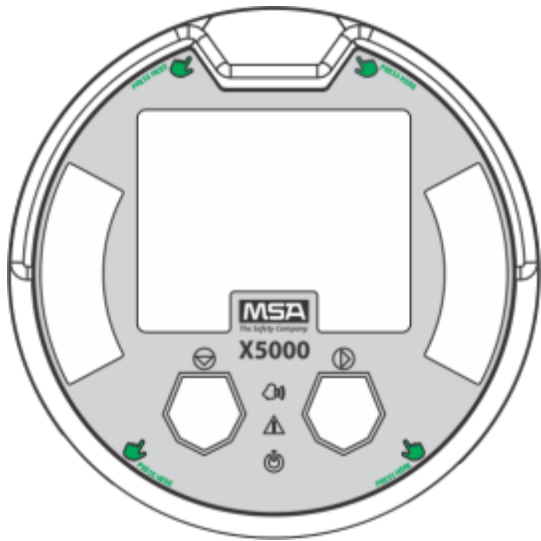

Figure 33 Highlighted areas show where to press when replacing a board stack
12. Replace the board stack by aligning the four metal standoffs with the four holes inside the ULTIMA X5000 housing. Push firmly on the board stack where indicated (see Figure 33).